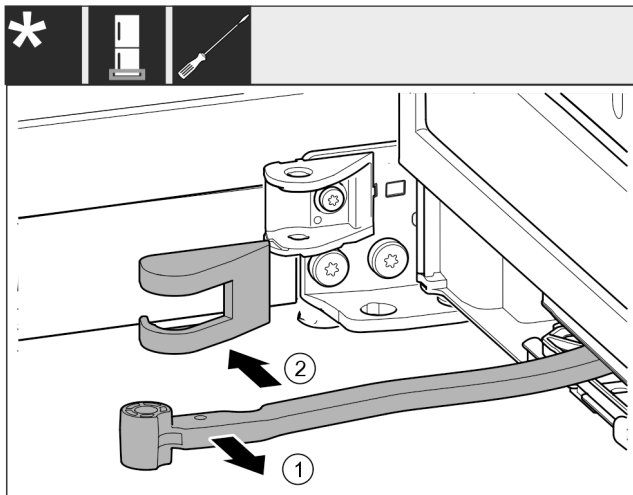

Fig. 20
- Turn the joint Fig. 20 (1) towards the door.
- Remove the swap bearing block cover Fig. 20 (2).